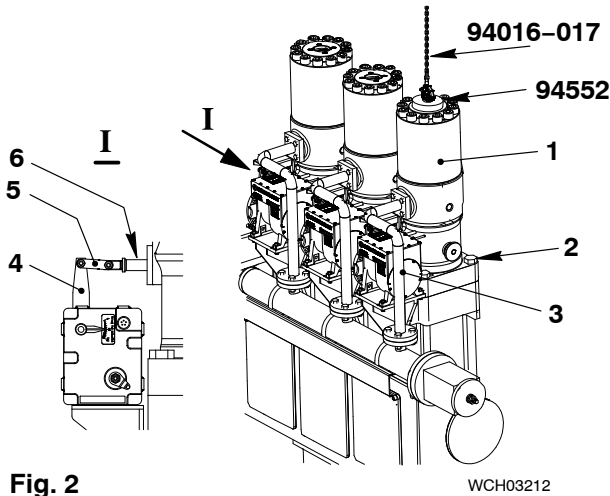
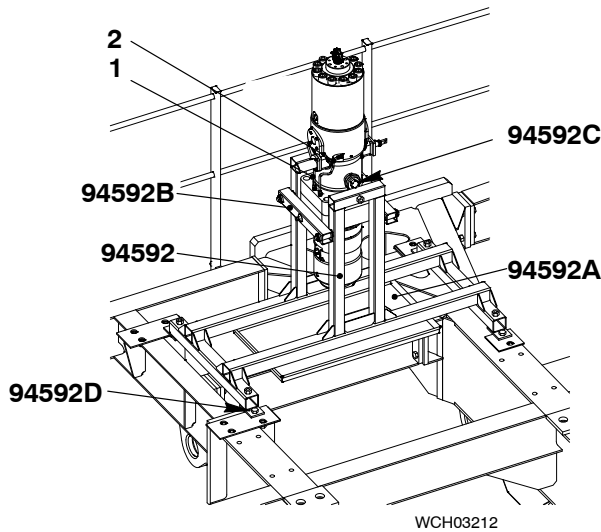

Fig. 2
Fig. 3
- 2) Remove the applicable oil pipe (3, Fig. 2).
- 4) Remove the connecting element (5) between the toothed rack (6) and the actuator lever (4).
- 5) Remove the screws (2) from the fuel pump (1).
- 8) Carefully lift the fuel pump (1).
- 11) Attach the fuel pump to the fuel pump rack (94592, Fig. 3) with the screws (94592C).
- 15) Remove the oil inlet pipe (1) and the oil drain pipe (2).
- 1) Remove the screws (94592E, Fig. 3), then remove the two limiters (94592B).
- 2) Turn the fuel pump until the roller (1) points up.
- 5) Remove the tool (94552) and let the fuel drain into the oil tray (94592A, Fig.3).